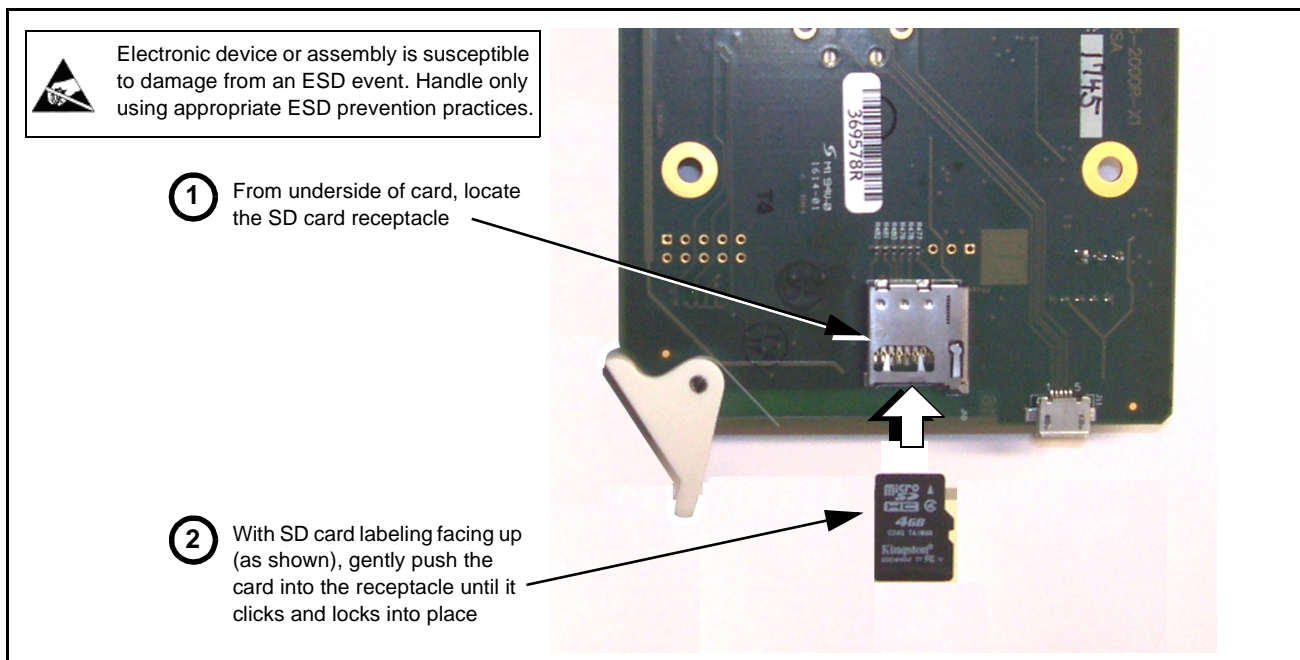

Figure 3-9 SD Card Installation
1. (See Figure 3-9.) Make certain the card has the proper SD card installed in the under-card slot. If SD card is **not** installed, contact Service to obtain an SD card.